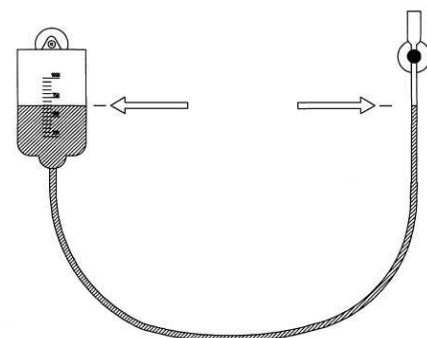

Fig. 1
- Position the clamp with the immersion probe top right, then connect the free end of the tubing to the immersion probe (Fig. 1).